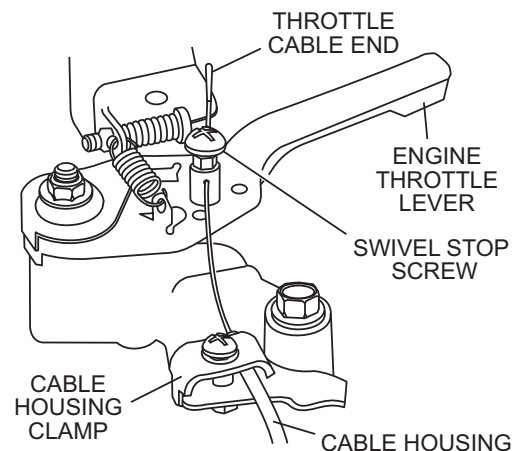

Figure 8. Throttle Cable Connection
3. Connect the throttle cable to the engine. (Figure 8). There should be a piece of wire installed on the trowel to show where to route the throttle cable. When connecting the cable housing, make sure that no more than **1/4" (6.4mm)** of the cable housing protrudes past the housing clamp on the engine.